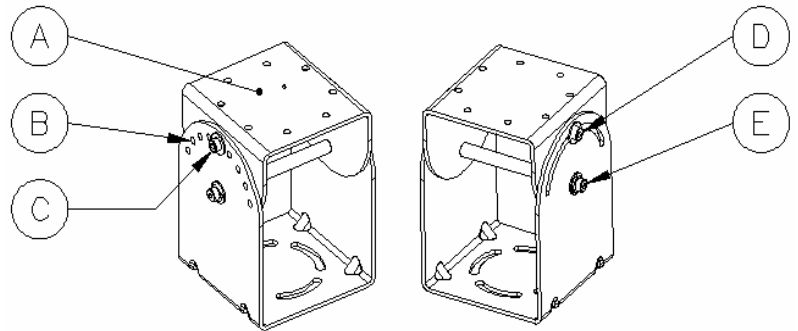

Figure 3
Step 1: Reposition Heavy Duty Bracket: To adjust angle of Heavy Duty Bracket (A) (See Figure 3) remove Screw/Washers (C) and loosen Screw (D) with 5/32" Allen Key to allow bracket to swivel and repositioned into desired angle. Reinstall Screw/Washers (C) in new positioning hole and tighten all Screws (C), (D) and (E) to required torque of 18 in-lbs.
1. Screws, and washers (C, D and E in Figure 3) used in Heavy Duty Bracket are all specialty hardware and are not separately orderable. This part includes all associated hardware (Items A through N).